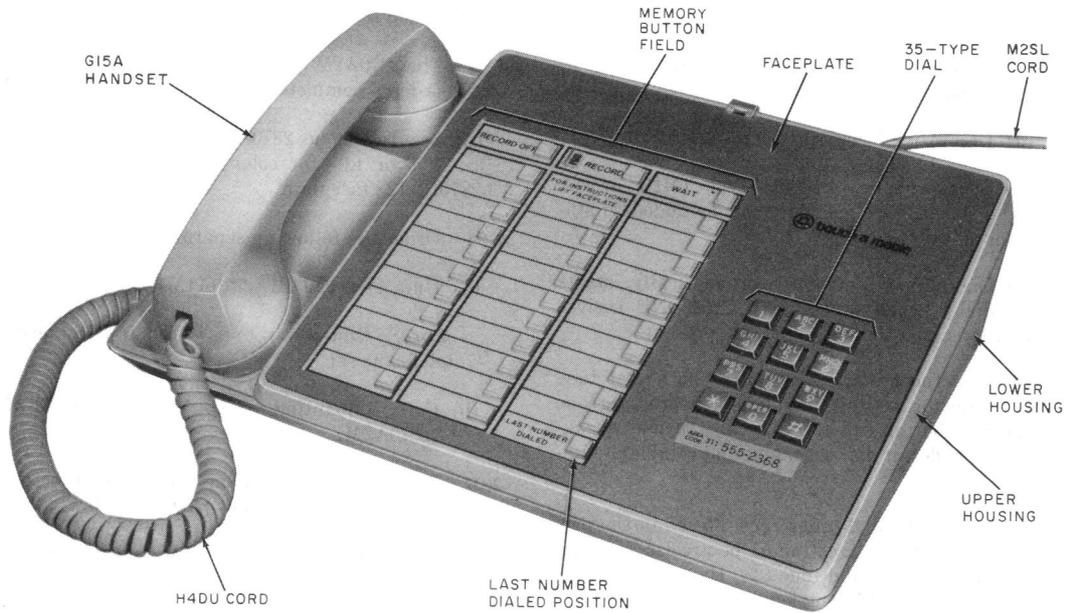

Fig. 1—2870A2M Telephone Set
1.01 This section contains information for the 2870A1M (MD) and 2870A2M TOUCH-A-MATIC telephone sets (Fig. 1).